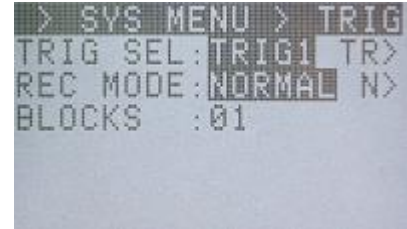

Figure3-28 TRIG SEL(TRIG SET)
- 2) Select "TRIG SET" from the TOP MENU using the arrows   and press SET  to display the TRIG SET sub-menu (Figure 3-28) .